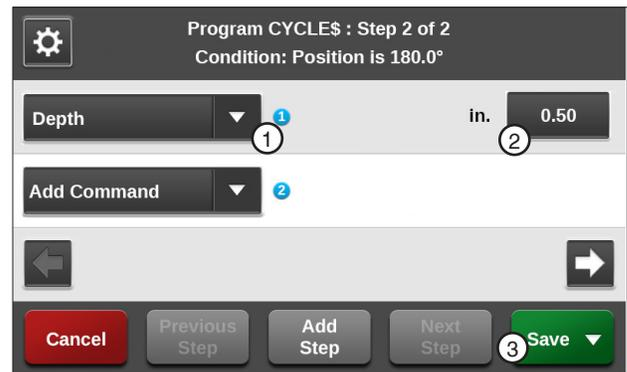

Figure 139-3 1. Depth Command 2. Inches 3. Save
8. Enter the command to be executed at this position. Refer to Figure 139-3.